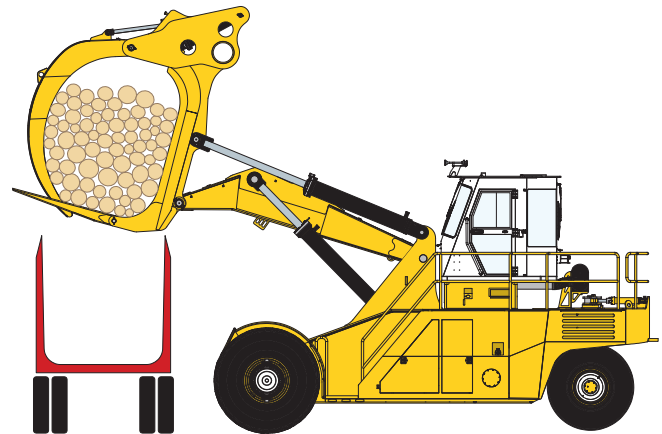

Figure 4-5-3 Hoisting the Load
5. Hoist the load clear of the truck or trailer and tilt the carriage back slightly to bring the load center closer to the drive wheel axle (See Figure 4-5-3).